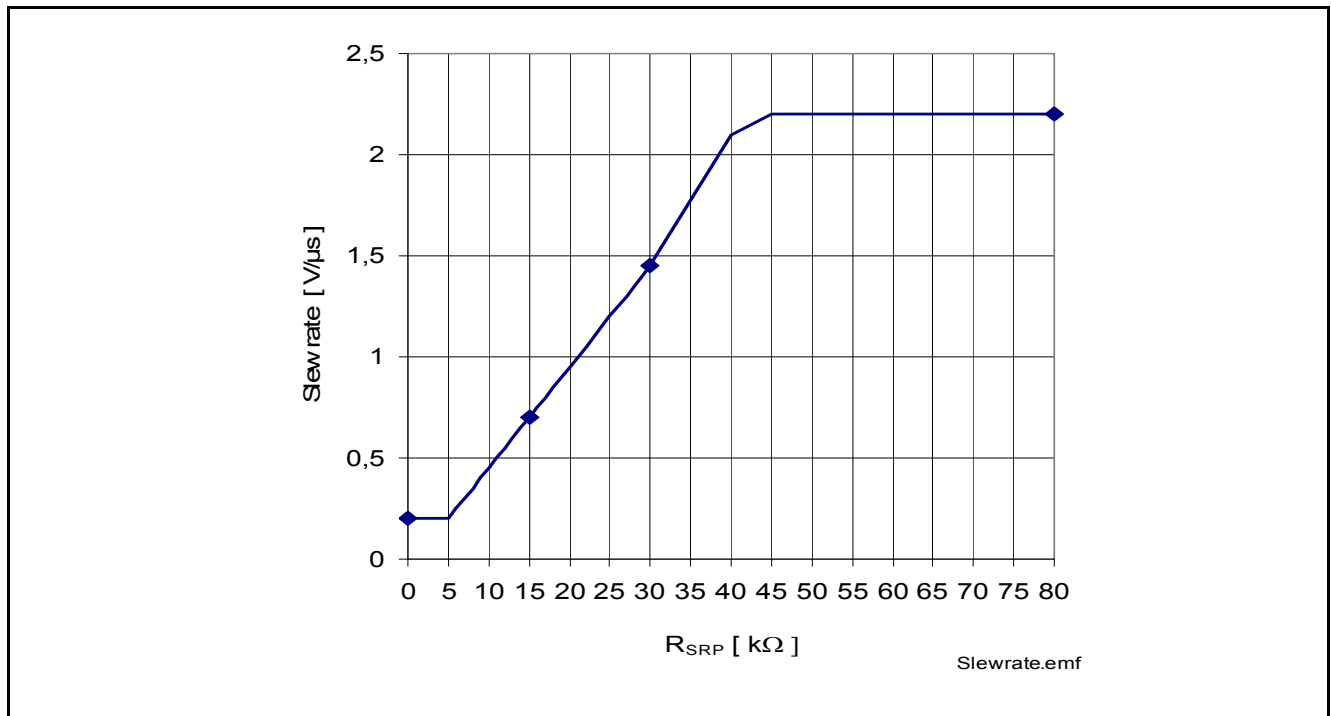

Figure 15 Typical relation between slew rate and resistor values used on  $R_{SRP}$  ( $V_{bat}=13.5V$ )
**Figure 15** shows the relation between the resistor value and the slew rate of BTS3256D.